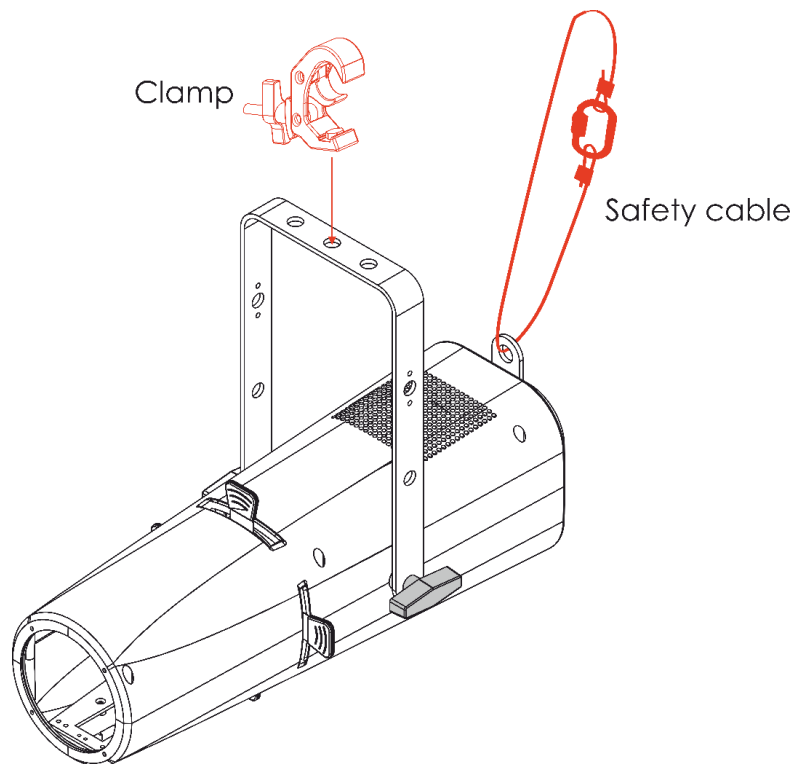

Fig. 05
- 01) Use a clamp to attach the device to the supporting structure, as shown in Fig. 05. Make sure that the device cannot move freely. The use of a quick lock bracket is optional.
- 02) Secure the device with a secondary suspension, for example a safety cable. Make sure that the secondary suspension can hold 10 times the weight of the device. If possible, the secondary suspension should be attached to a supporting structure independent of the primary suspension. Put the safety cable through the **safety eye (07)**, as shown in Fig. 05.